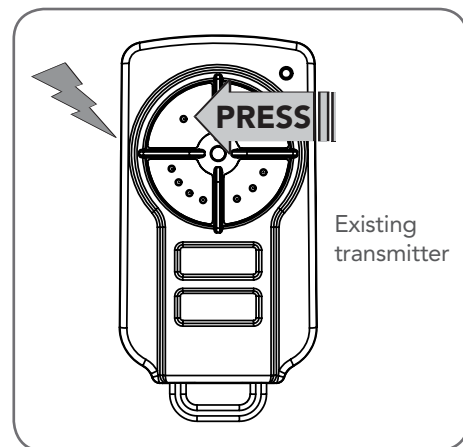

Fig 11.1
- Using the existing transmitter, operate the gate with the transmitter button which has the function to be coded (**Fig. 11.1**) (e.g. Button 1 has been coded with the OSC function assigned).